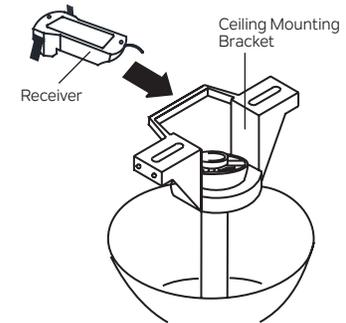

Fig. 12
Step 1. Insert the receiver into the ceiling mounting bracket with the flat side of the receiver facing the ceiling. **(Fig. 12)** For best performance, make sure the black antenna wire (on the end of the receiver) remains extended, and does not become tangled with the electrical wires.